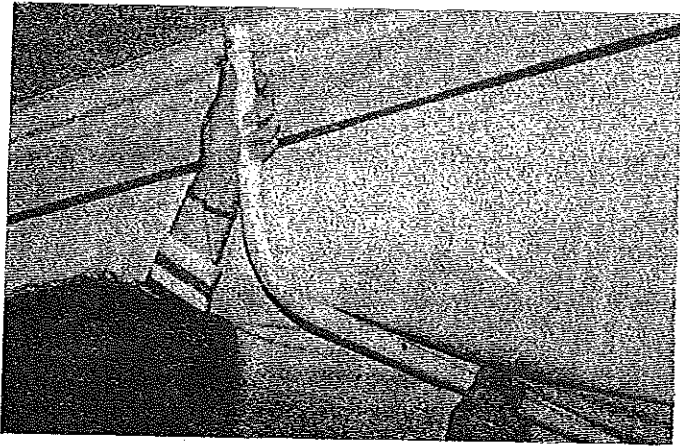

FIGURE 31
41. To completely support the tent enclosure over the bed (front and rear), attach the bed bow support by inserting the straight end into the bed bow. Insert the rounded end of the bed bow support into the roof retainer. (See Figure 31 and 32.)
11. Detach both front and rear bed bow supports from the roof retainer and from the bed bow. Lay the bed bow supports under each mattress. See Figure 31.